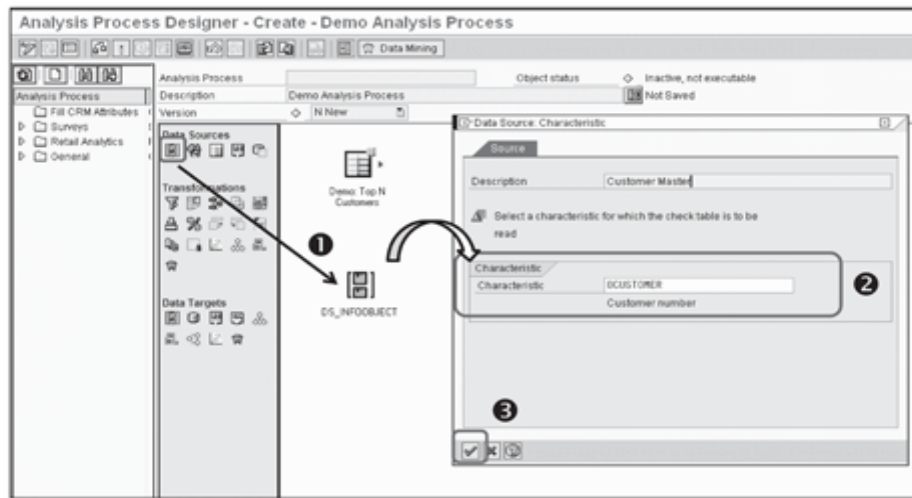

Figure 15.8 Add Data Source – Master Data
2. Drag another data source, master data, in the design area (❶ of Figure 15.8), and assign the master data characteristic that is needed to perform the analysis (❷). Press Enter, or click on the icon shown in ❸ of Figure 15.8 to return to the design screen.